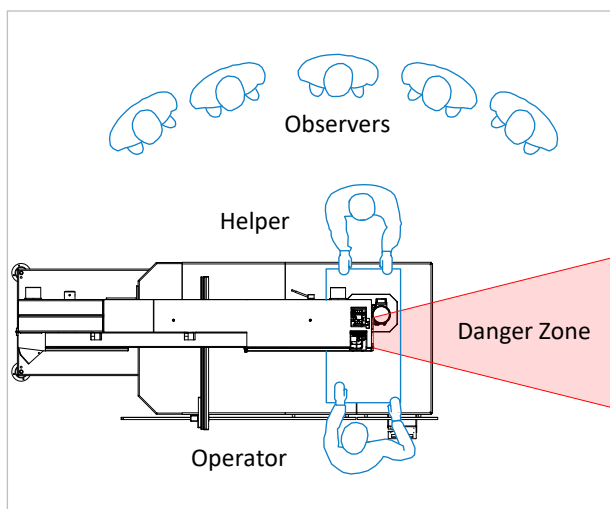

Figure 3: Danger zone around the machine
- ⚠ **Behaviour in the event of a saw blade breakage:** Press the emergency stop and wait until all bandsaw wheels have come to a complete standstill before taking any further action. Only the lower wheel is braked! In the danger zone next to the machine (see ⇒ Figure 3), there is a danger to life if the saw blade breaks!